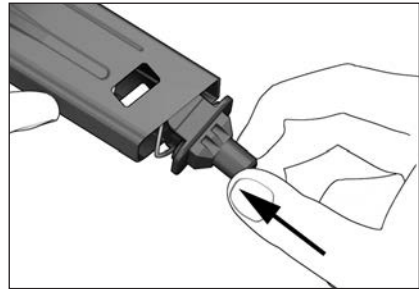

*Figure 32 – Pivot the disassembly lever counter clockwise*
9. Pivot the disassembly lever counter clockwise so that the lever lies horizontal to the bottom of the slide (see Figure 32).